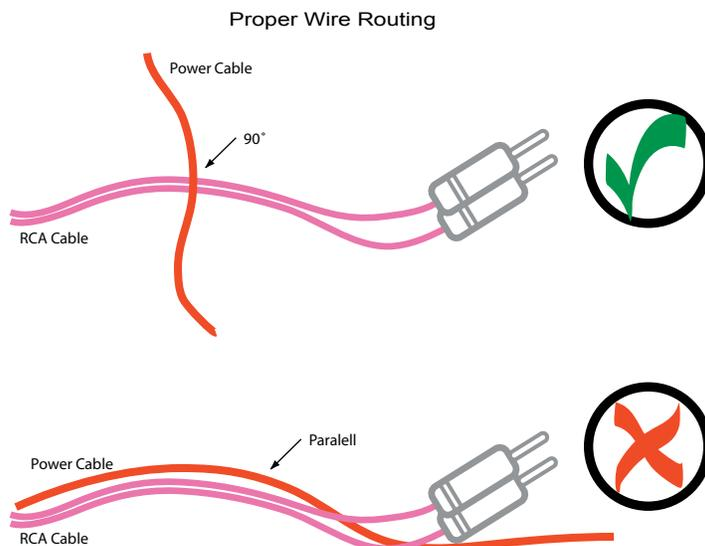

Figure 6
3. Avoid installing Power and RCA cables parallel to each other. If the RCA and Power cables must be crossed over each other attempt to cross the cables at a 90 ° angle. See Figure 6
4. Avoid wire tying Power or RCA cables to any existing power harnesses below the dash area of the vehicle. If you must, use the technique in figure 6.